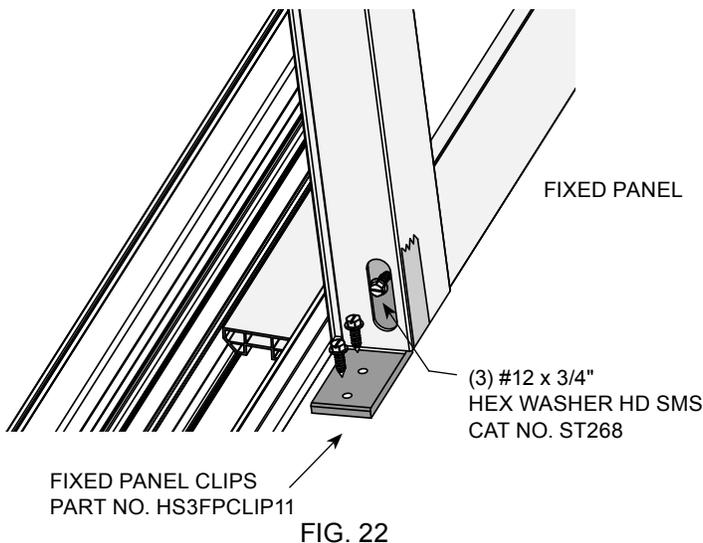

FIG. 22
5. Fasten the top and bottom fixed panel clips to the fixed interlock stile of the fixed panel with Cat No. ST268 #12 x 3/4" Hex Washer HD SMS and then to the head and sill frame members. (FIG. 22)